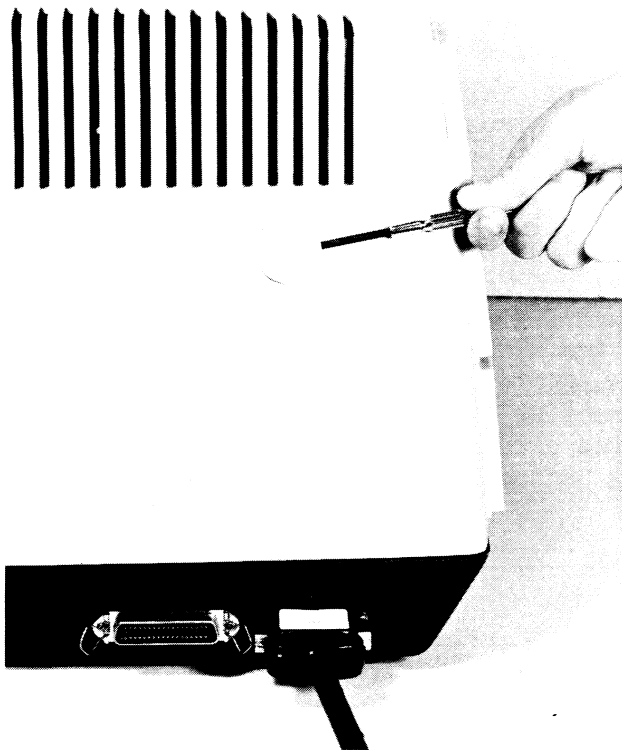

Figure B-1. Removing the Cap
2. Locate the position of the cap in the rear of the Interactive Terminal, as shown in Figure B-1. If necessary, the Interactive Terminal may be moved slightly to provide better access to the cap.
3. Using a screwdriver as shown in Figure B-1, gently remove the cap by placing the tip of the screwdriver under the cap.